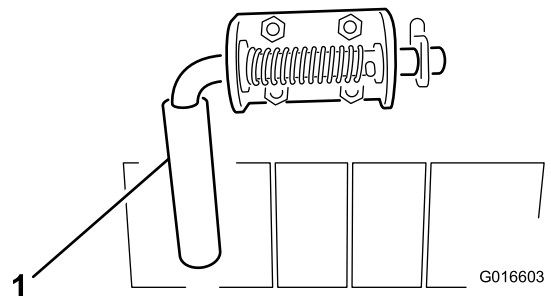

Figure 4
To release the hopper or hopper latch (Figure 4), pull on the handle and rotate it up or down to engage the latch pin behind the stop.
3. Remove the locking pin from the lever, squeeze the latch lock, and lift the lever up to open the coupler (Figure 4).